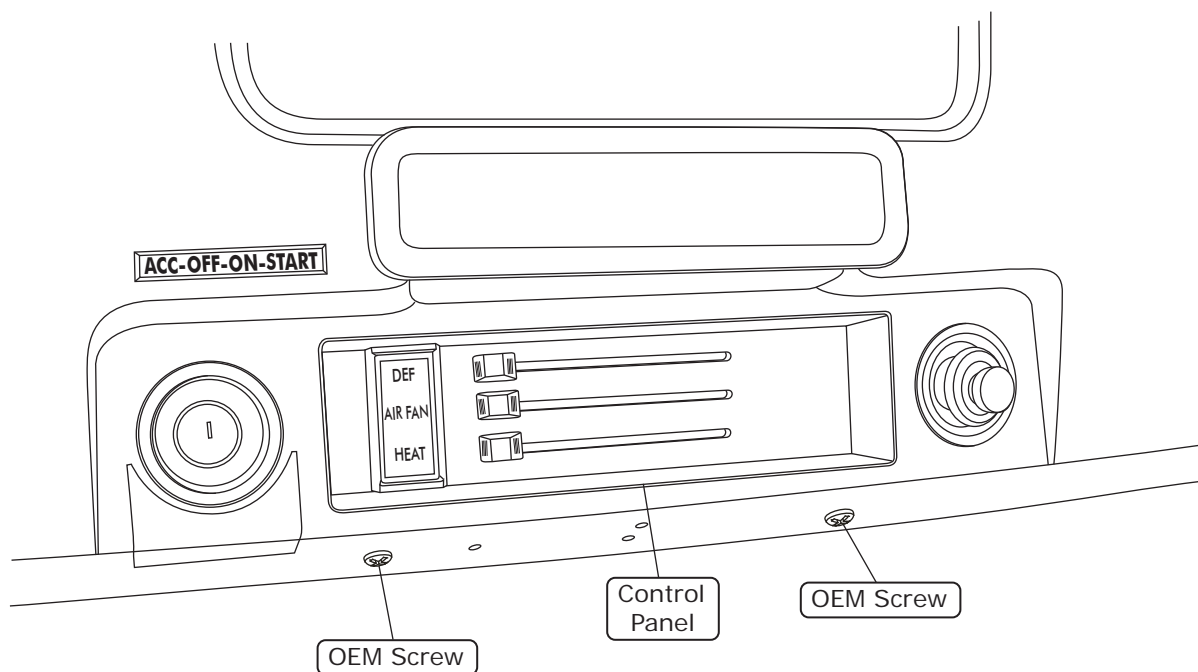

Figure 1
1. Remove the (2) OEM screws from under the dash (See Figure 1, below).